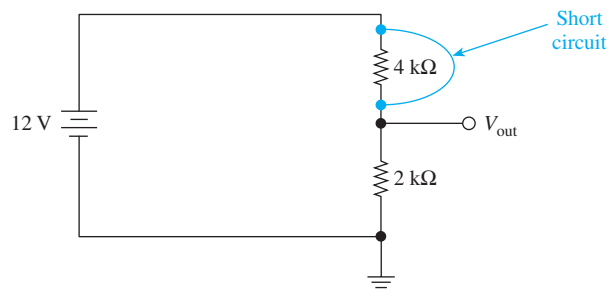

Figure F-6 A short across the top resistor causes the entire 12 volts to reach V_{out} .
Find V_{out} in Figure F-6.
- F-8.** The short circuit in Figure F-6 causes V_{out} to become 12 V because the current through the $2\text{-k}\Omega$ resistor becomes 0 A . True or false?